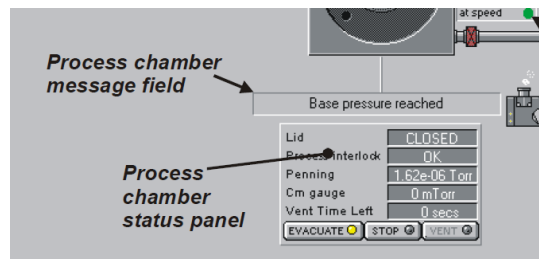

Fig 2: Pump control page
- iii. Press “STOP” at the bottom of the process chamber status panel. (Fig. 2)
- iv. Press “VENT” and wait until it says, “Venting Finished” in the process chamber message field. (Fig. 2)
- iii. Ensure that the “SOFT PUMP” is 30 seconds. (located to the left of the process chamber status panel, Fig. 2)
- iv. In the “Pumping” page, click “STOP” then “EVACUATE”. (Fig. 2)
- vi. Wait until the display says, “Base pressure reached” (Fig. 2)
- ii. Press “STOP” then “VENT” and wait until it says, “Venting Finished”. (Fig. 2)
- vi. Select “Stop” then “EVACUATE”, enter a wafer name, and select “OK”. (Fig. 2)